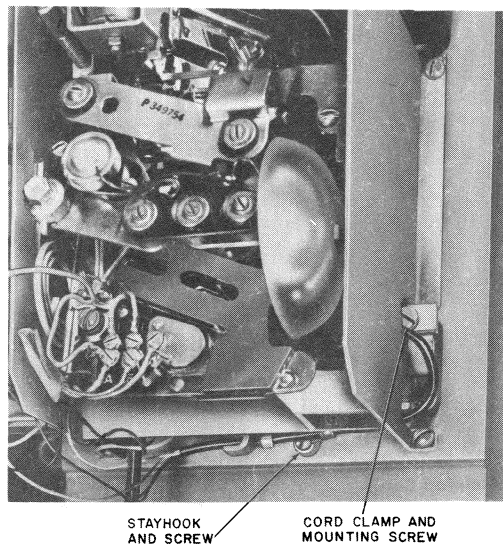

Fig. 20—Location of Armored Cord and Mounting Hardware in 235/1235-Type Coin Collector
2.29 ♦Refer to Fig. 20 for routing and securing handset cord to 235/1235-type coin collectors.♦